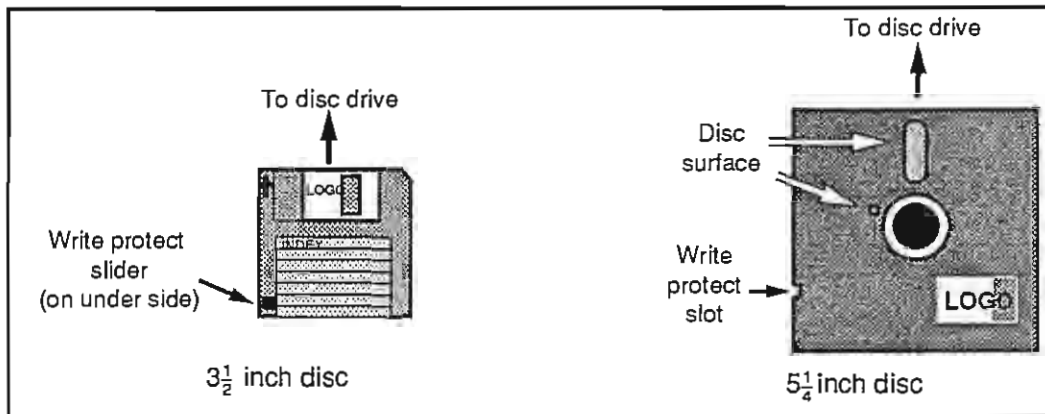

Figure 6.4.1a Disc orientation relative to disc drive
6. Discs must be inserted correctly (see figure 6.4.1a below).
Write protection is available on both types of disc (see figure 6.4.1a). It is recommended that if disc copying is to be carried out, the source disc is write protected before copying is started. With 5¹/₄ inch discs, the write protect slot has to be covered by an opaque, self-adhesive label, usually supplied with the discs. 3¹/₄ discs have a movable plastic slide with two positions: write enable, write protect.